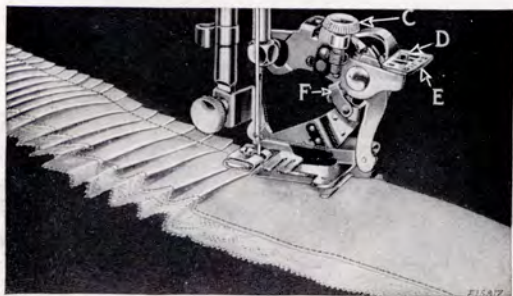

FIG. 59
Raise the adjusting lever (E, Fig. 59) and move it to the right so that the projection (D, Fig. 59)
the adjusting lever (E, Fig. 59) so that the projection (D) enters the slot marked "12" in the adjusting lever. Insert the material to be plaited between the two blue blades, following the line (2, Fig. 54). The size or width of plaits is regulated by the adjusting screw (C, Fig. 59) and the adjusting finger (F, Fig. 59). To make a wider plait, move the adjusting finger (F) back or toward the needle and turn the adjusting screw (C) downward. To make a smaller plait, turn the adjusting screw (C) upward. The distance between plaits is regulated by the length of stitch.